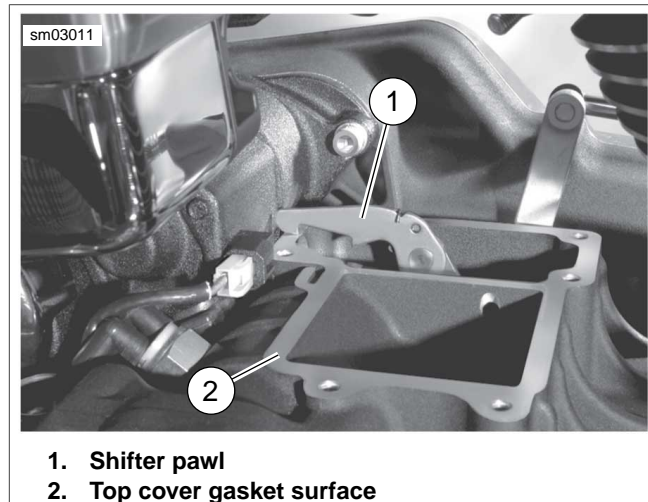

Figure 6-8. Set Shifter Pawl on Gasket
8. See Figure 6-8. Rotate the shifter pawl forward enough to raise the free end and place shifter cam pawl on top cover gasket.